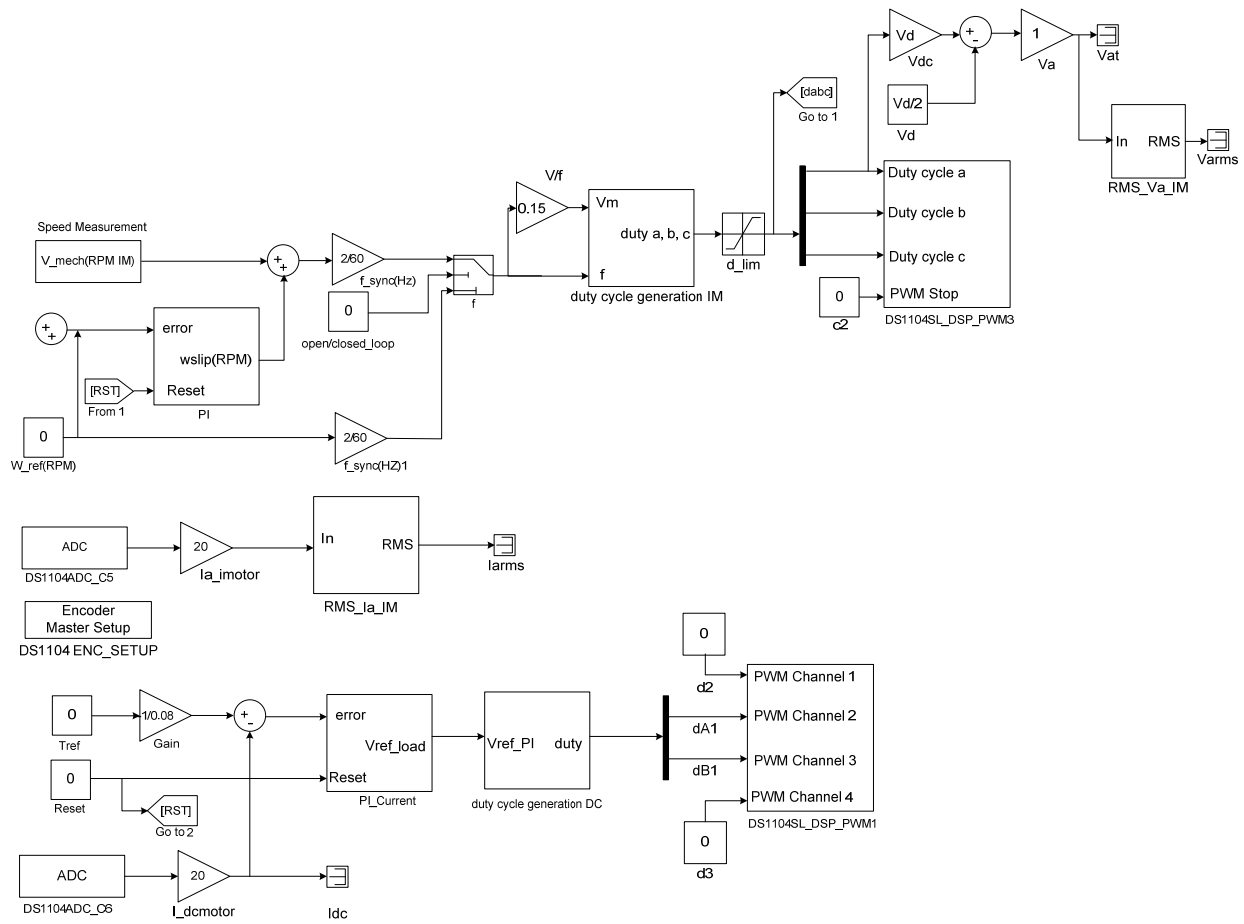

Figure 9.6: IM Speed Control PI
- Open file **im_speed_control_pi.mdl** as shown in Fig 9.6. Build this file (Ctrl+B). Open dSpaceControlDesk and open variable file **im_speed_control_pi.sdf** and then open layout file **im_speed control pi_lay**.